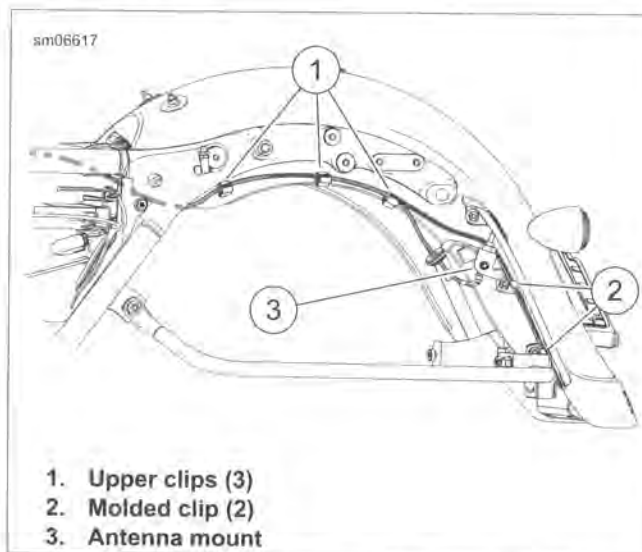

Figure 7-93. Rear Fender Lamps Harness and Antenna Cable: FLHX/S
2. See Figure 7-93. Release antenna cable from three upper clips (1).
2. See Figure 7-93. Pass connector through grommet and connect to bottom of antenna.
3. Capture cable in three upper clips (1).